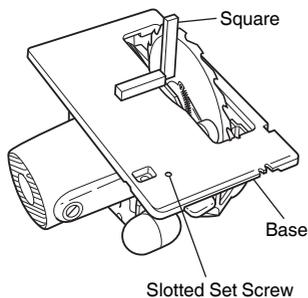

Fig. 14
- (1) Turn the base face up (Fig. 14) and loosen the wing-nut (Fig. 4).
- (2) Apply a square to the base and the saw blade and, turning the slotted set screw with a slotted-head screwdriver, shift the position of the base to produce the desired right angle.